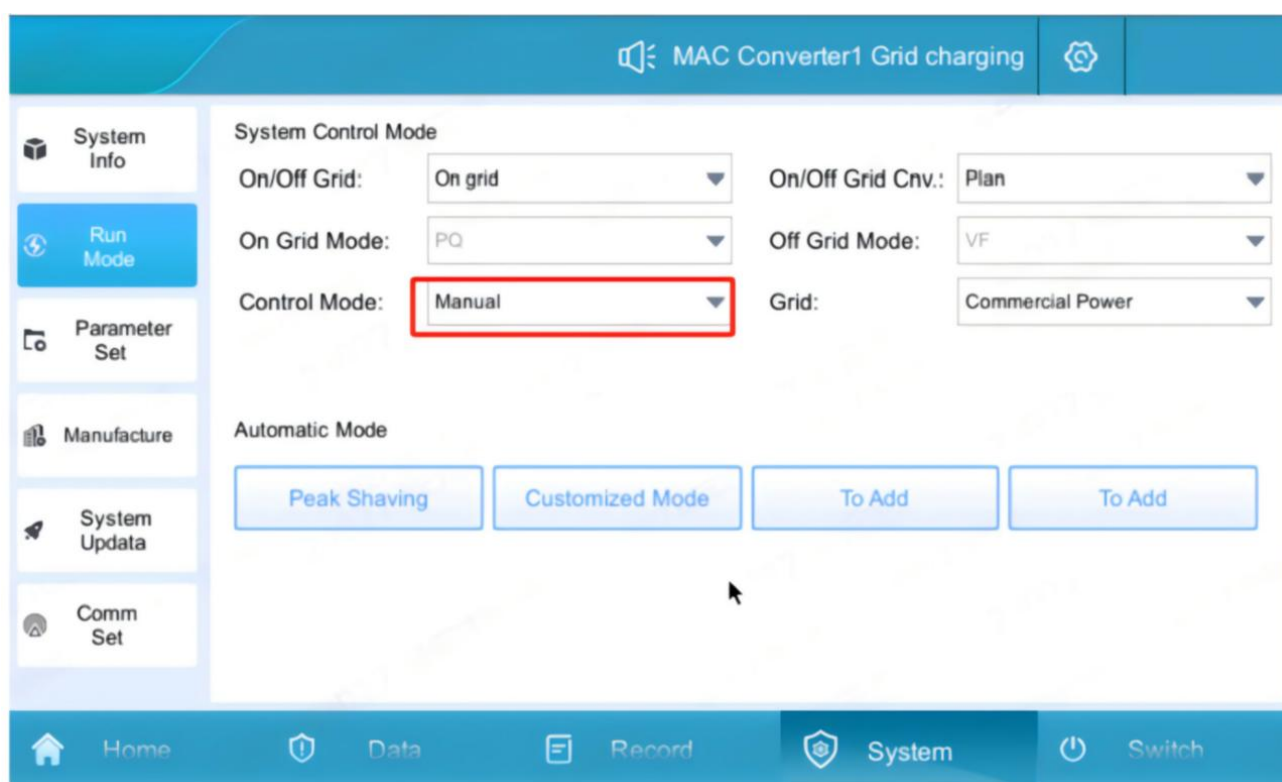

Figure 6.2-1 Run Mode Interface
5. On the "Switch" page of the HMI integrated screen, enable all modules (or only some of them as needed). Click "System ON", and the normal startup time is approximately 30 seconds. Refer to Figure 6.2-1.